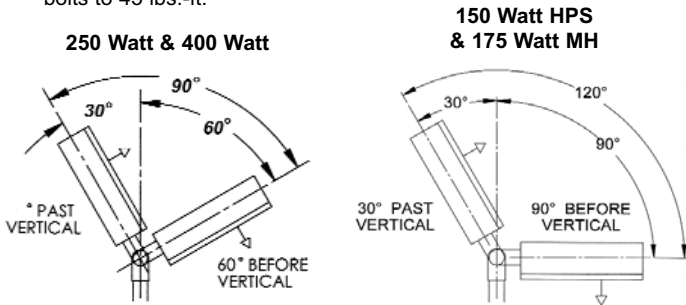

Figure 6 - Final Vertical Adjustment
6. To make final vertical adjustment, loosen the two pivot bolts on the floodlight yoke to position floodlight at the desired angle (within the acceptable aiming range limits). See Figure 6. Tighten the two pivot bolts to 45 lbs.-ft.